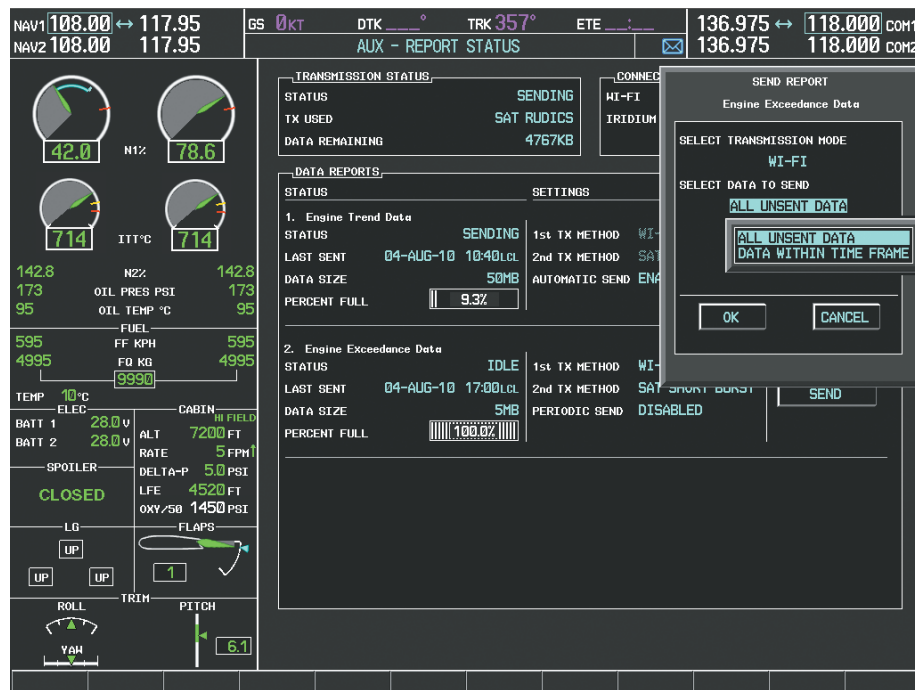

Figure 8-116 Select Data to Send
- 3) Press the **ENT** Key. The Send Report window is displayed as shown in Figure 8-116.